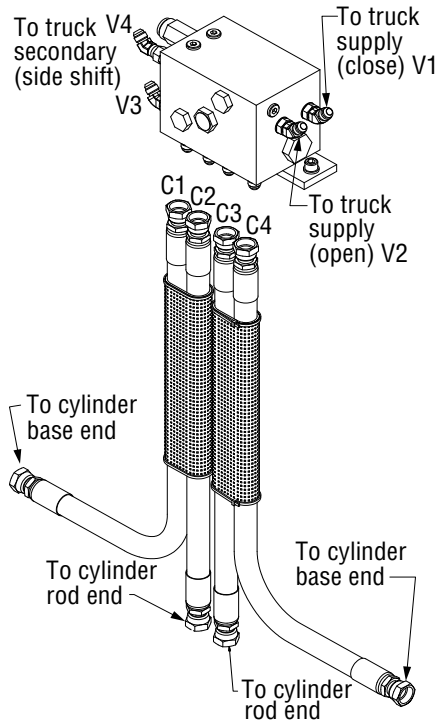

Figure 4-12, Hydraulic Valve
1. Turn off the truck's power and activate the hydraulic functions in both directions several times to relieve the built up hydraulic pressure. (Figure 4-12)